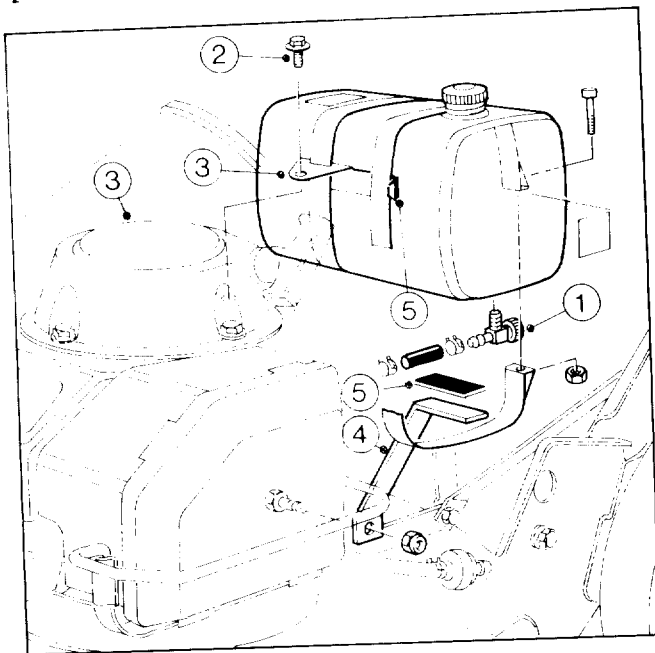

Figure 5
1. Thread fuel valve into fuel tank, positioning as shown in Fig. 5.
2. Remove rear flange head capscrew securing starter recoil to blower housing on engine. Install front tank mount to starter recoil and blower housing with flange head capscrew previously removed, (Fig 5).
3. Mount lower tank mount to deck bracket with 5/16-18 x 1" lg. capscrew and locknut as shown in Fig. 5.
4. Secure isolator pads to back side of front tank mount and top side of lower tank mount. Trim length as necessary, (Fig. 5).
6. Slip a mounting strap through slot in front tank mount (Fig. 5).
7. Position gas tank onto lower tank mount with gas cap toward left side of mower. Leave approximately 3/4" gap between tank and black bag adapter on right side of mower (Fig. 5).
8. Secure left side of tank to lower tank mount and right side of tank to front tank mount with mounting straps. Secure straps with 1/4-20 capscrews and nuts (Fig 5).
9. Cut off approximately 2-1/2" of fuel line and secure to engine fuel filter and fuel tank valve with hose clamps (Fig. 5).